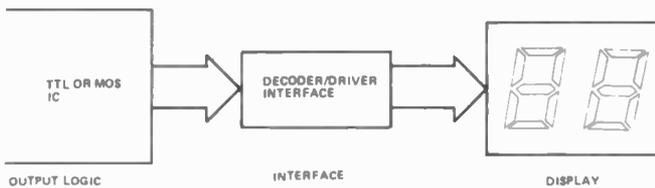

Figure 2. Position of decoder/driver interface stage between TTL or MOS logic and digital display
In addition to the amount of power required when selecting a particular type of display you must be conscious of what a device requires in terms of voltage and current. Almost invariably the signal which turns the display on and off originates from an integrated circuit (IC) using TTL (transistor transistor logic) or MOS (metal oxide semiconductor) technology. The 'driving' capability of TTL is nominally 5 V and a few tens of milliamps. With MOS technology, this capability is 5-15 V and only microamps of current. Often an IC is found to be incompatible in voltage or current (or both) to drive a display directly, and for this reason special interface drive stages are used to link the display to the IC (see Fig. 2). The interface takes the form of a special IC or a discrete transistor circuit.
The driver stage itself performs a useful 'logical' interface. Display circuits usually work in pure binary or binary coded decimal. In simple terms, the code (known in digital language as the 'word') associated with each digit of the display comprises four parts or 'bits'. Its proper title is a four-bit word. The display, on the other hand, will require some combination of a seven-bit word. This logical transformation is performed by a driver called a decoder. Figure 2 shows a schematic of this circuit — which interfaces both electrical and logical incompatibilities between the drive circuit and the display. Not surprisingly it is called a driver/decoder stage.